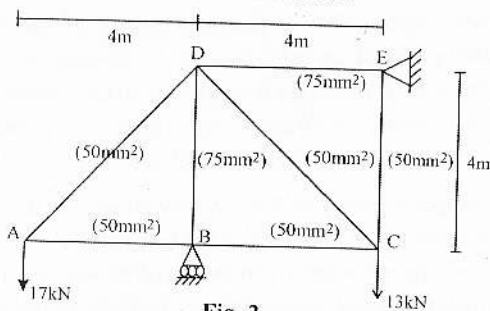

Fig. 2.
8. Analyze the truss as shown in Fig. 2 using the method of joints. Also determine the vertical displacement of the point A using the unit load method. Assume the members to be pin connected at their ends. The cross-sectional area of each member of the truss is shown alongside in the figure and $E = 200\text{ GPa}$ for each member.